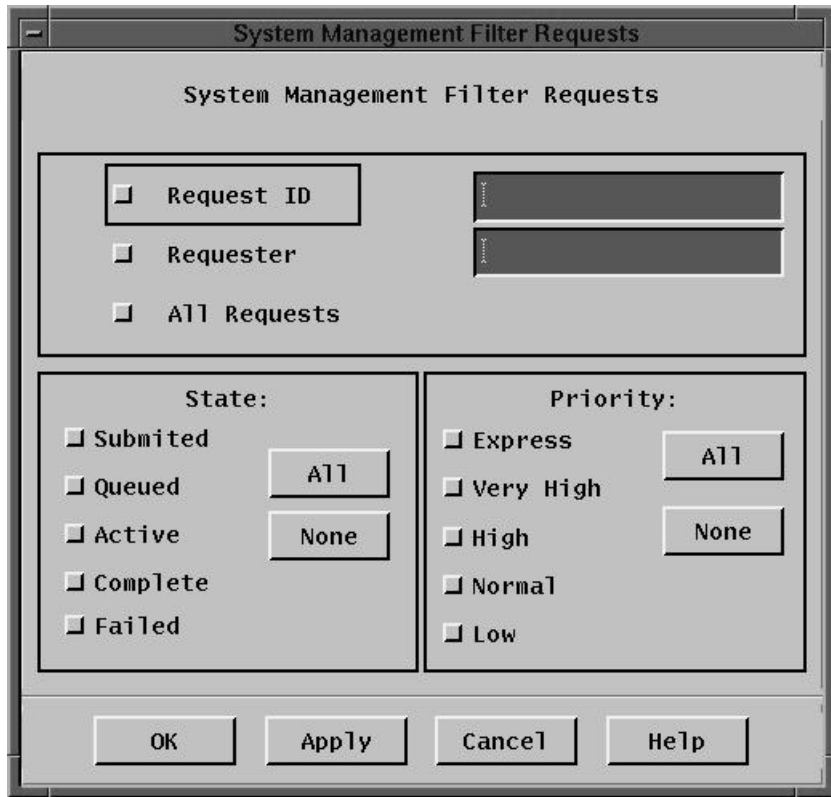

Figure 26.28.6-2. System Management Filter Requests Dialog
- **Filter...** (see Figure 26.28.6-2) brings up the System Management Filter Requests dialog which provides a selection of attributes on which to filter for the list of System-wide requests. Filter on system management requests by entering the desired information, then clicking on the Request ID or Requester radio button for the desired attribute. Return to the original list of requests by clicking on the All Requests radio button. Click on other filters associated with State and Priority by clicking on the toggle button. Filter on every attribute associated with a category by clicking the **All** button or clear a category of filters by clicking on the **None** button.